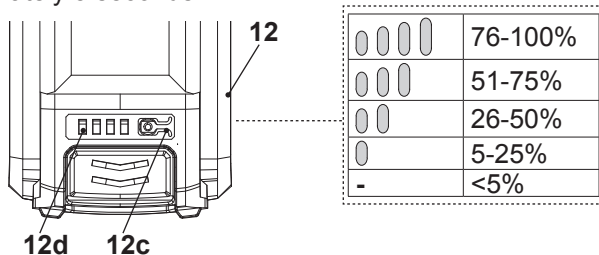

Fig. 7
The battery pack (12) is equipped with the battery capacity indicators (12d) which are used to give an indication of the battery pack's remaining capacity. Press the battery capacity button (12c) to check battery capacity (Fig. 7). The LEDs will stay lit for approximately 5 seconds.